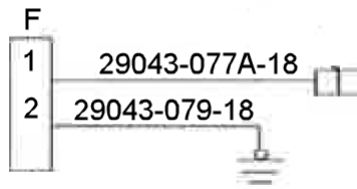

Figure 47-14
12. Add wires 29043-077A-18 and 29043-079-18 to a female 2-pin connector. See Figure 47-14.